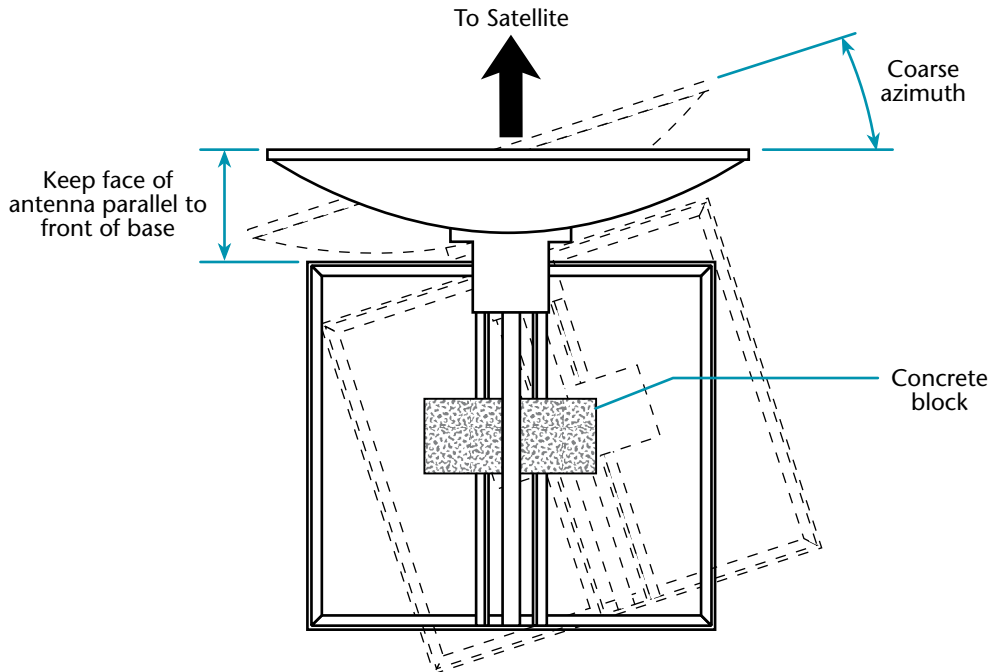

Figure 4-17. Rotating antenna and base for coarse azimuth setting
1. Temporarily place a concrete block on the base during the coarse azimuth adjustment (see figure 4-17).